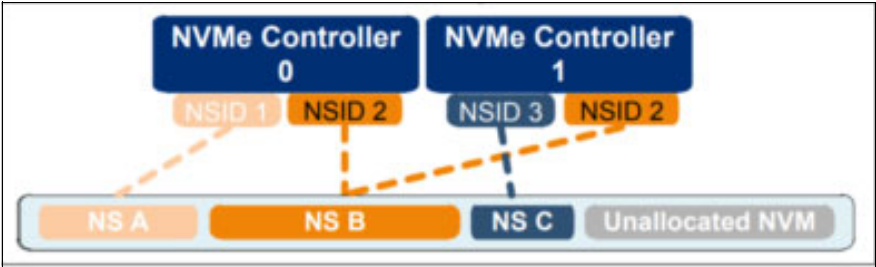

Figure 2-39 Shared and private namespaces
Figure 2-39 illustrates a shared namespace (B) that is accessible from both controllers.